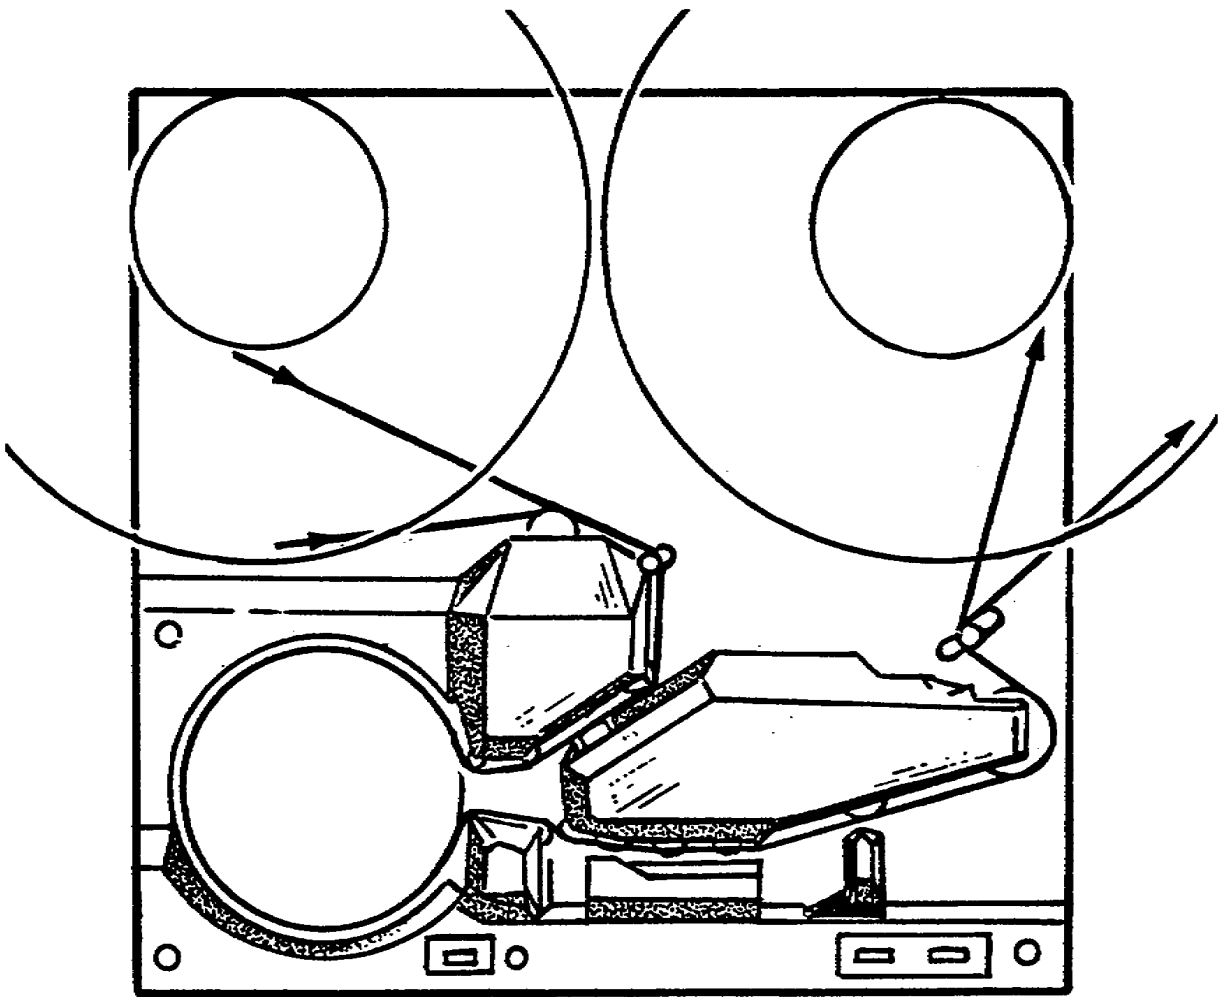

Figure 2-8. Helical scan, tape transport
b. Once a visual inspection has been made and the unit seems to be in an operable condition, a prerecorded tape may be put on the machine. Figures 2-8 and 2-9 show the method of threading tape on one model video recorder/reproducer. Always reference the manual on the specific model you are using.
(1) With a known good tape on the machine and if, during playback, severe picture dropout occurs, check for dirty brushes or commutator, or a clogged video head.
(2) The tracking control may be out of adjustment and require adjustment. Excessive horizontal motion of the monitor picture during a playback could be caused by low-frequency flutter, excessive capstan drive pressure, or possibly a damaged capstan drive wheel.
(3) If the head drum (fig 2-8) will not rotate, check power and fuses or check to see if the tape is too tight around the drum.
(4) If the picture appears noisy, or the playback level is low but the sound is normal, then check for a clogged video head. Also, check for a rough edge on a video head gap which possibly can be corrected by contouring tape. If the problem persists, it may be necessary to replace the head.
(5) If there is a bend at the top of the picture, correct for best vertical linearity by adjusting the tension control on the recorder/reproducer.